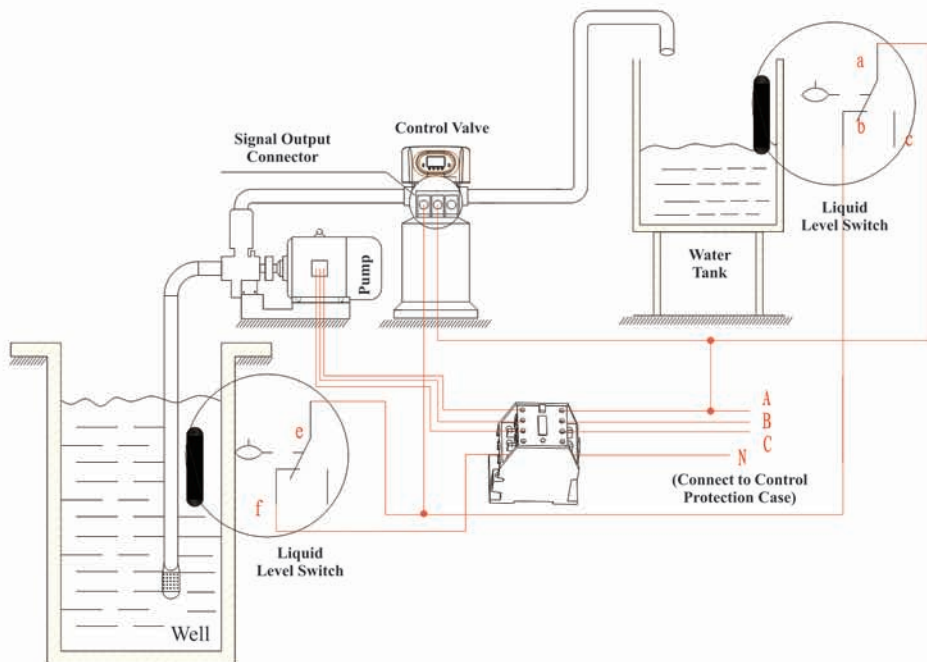

Figure 3-6 Wiring of Liquid Level Switch in Water Tank Controls Inlet Pump
3). Liquid Level Switch in Water Tank Controls Inlet Pump (Three-phase, refer to Figure 3-6) (Set b-01)